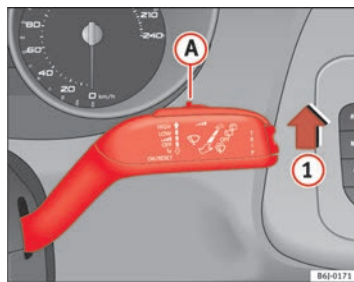

Fig. 60 Windscreen wiper lever
- Move the windscreen wiper lever into position ① ⇒ fig. 60.